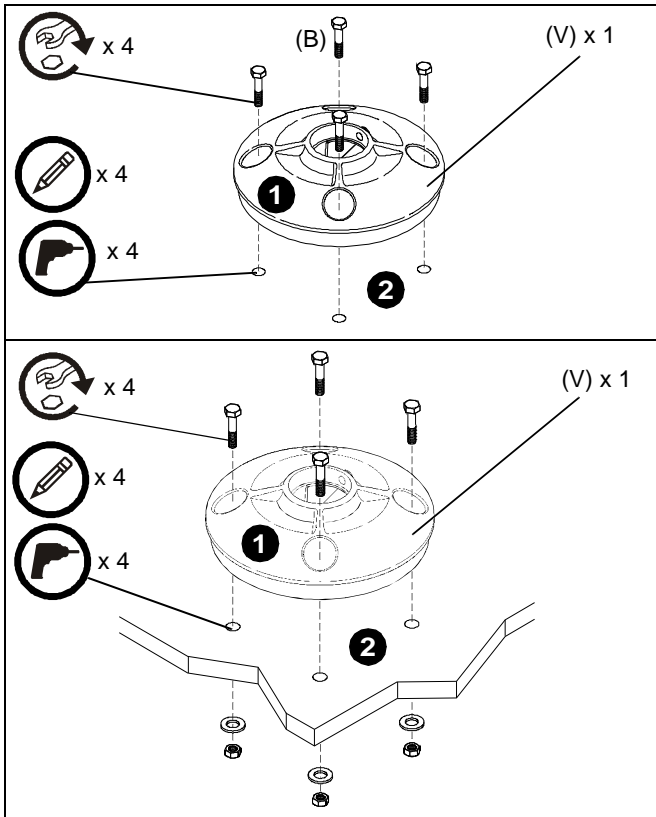

Figure 1
2. Orient base (V) so that cable management opening is properly positioned. (See Figure 1)
3. Using a pencil, or similar marking tool, mark the location of mounting holes in base onto surface. (See Figure 1)